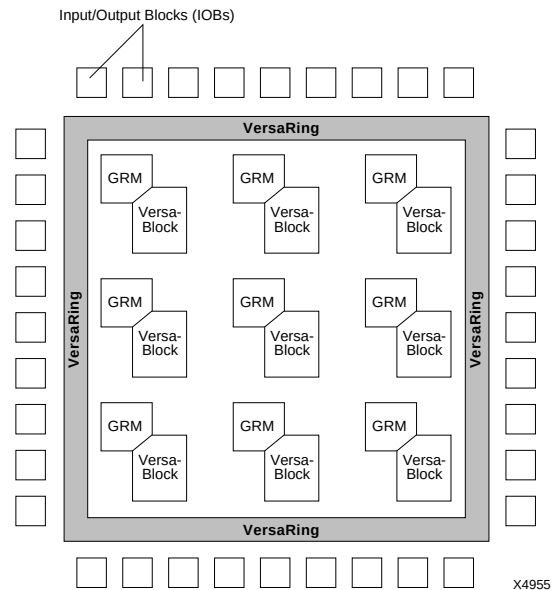
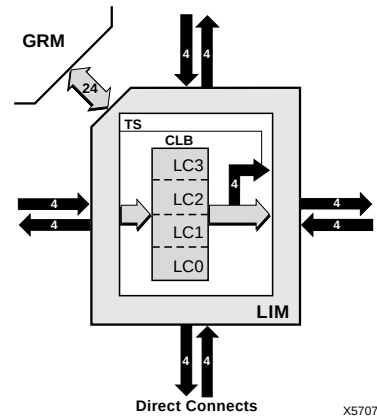
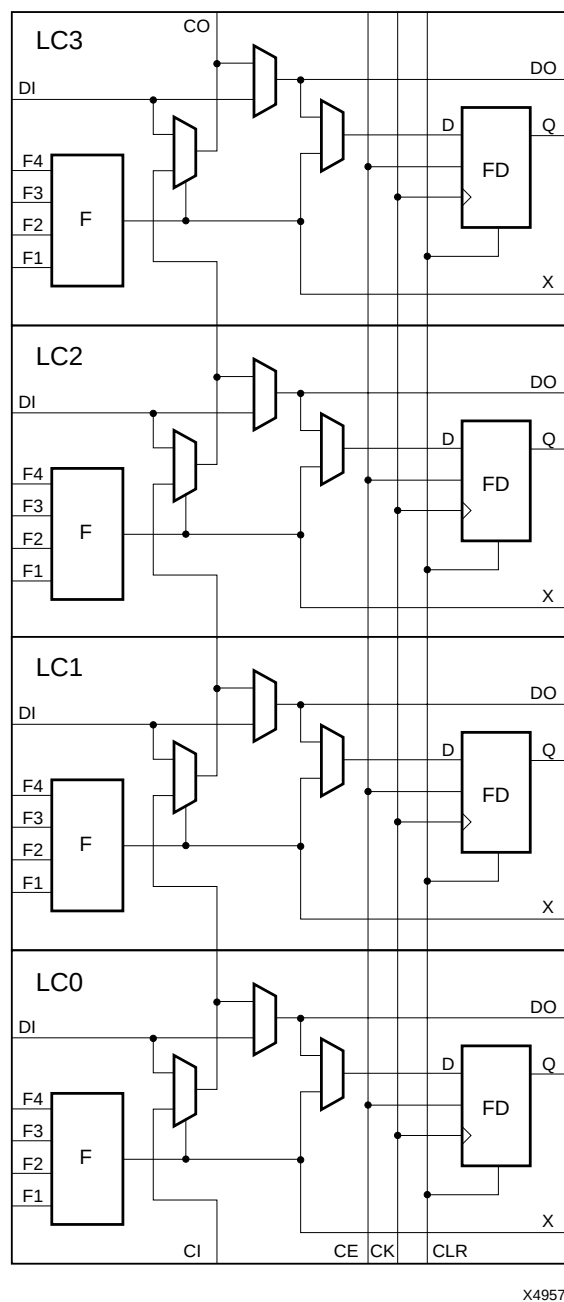

Figure 1: XC5200 Architectural Overview
Figure 2: VersaBlock
Figure 4: Configurable Logic Block
Figure 1 presents a simplified, conceptual overview of the XC5200 architecture. Similar to conventional FPGAs, the XC5200 family consists of programmable IOBs, programmable logic blocks, and programmable interconnect. Unlike other FPGAs, however, the logic and local routing resources of the XC5200 family are combined in flexible VersaBlocks (**Figure 2**). General-purpose routing connects to the VersaBlock through the General Routing Matrix (GRM).
The XC5200 CLB consists of four LCs, as shown in Figure 4. Each CLB has 20 independent inputs and 12 independent outputs. The top and bottom pairs of LCs can be configured to implement 5-input functions. The challenge of FPGA implementation software has always been to maximize the usage of logic resources. The XC5200 family addresses this issue by surrounding each CLB with two types of local interconnect — the Local Interconnect Matrix (LIM) and direct connects. These two interconnect resources, combined with the CLB, form the VersaBlock, represented in Figure 2.
Figure 4 shows the logic in the XC5200 CLB, which consists of four Logic Cells (LC[3:0]). Each Logic Cell consists of an independent 4-input Lookup Table (LUT), and a D-Type flip-flop or latch with common clock, clock enable, and clear, but individually selectable clock polarity. Additional logic features provided in the CLB are:
Four fast feed-through paths from DI to DO are available, as shown in **Figure 4**. This bypass is sometimes used by the automated router to rewire internal signals. In addition to the storage element (Q) and direct (DO) outputs, there is a combinatorial output (X) that is always sourced by the Lookup Table.